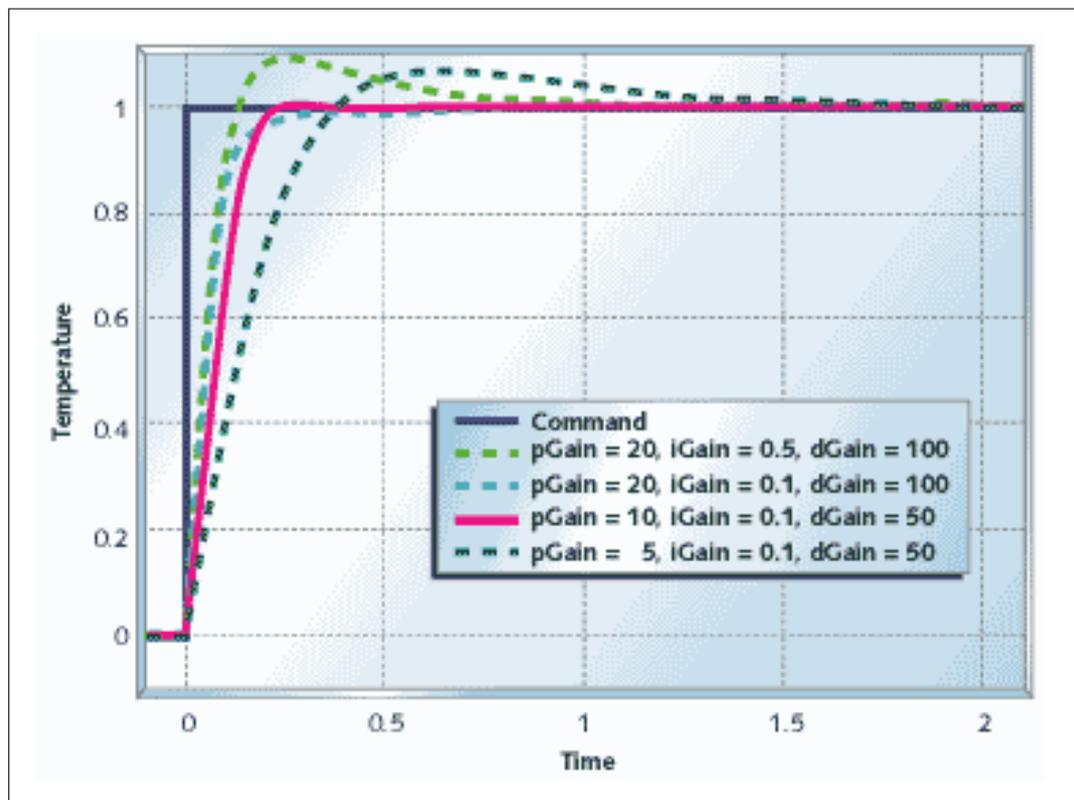

Figure 18
**Figure 18** shows the heating system with PID control. You can see the performance improvement to be had by using full PID control with this plant.